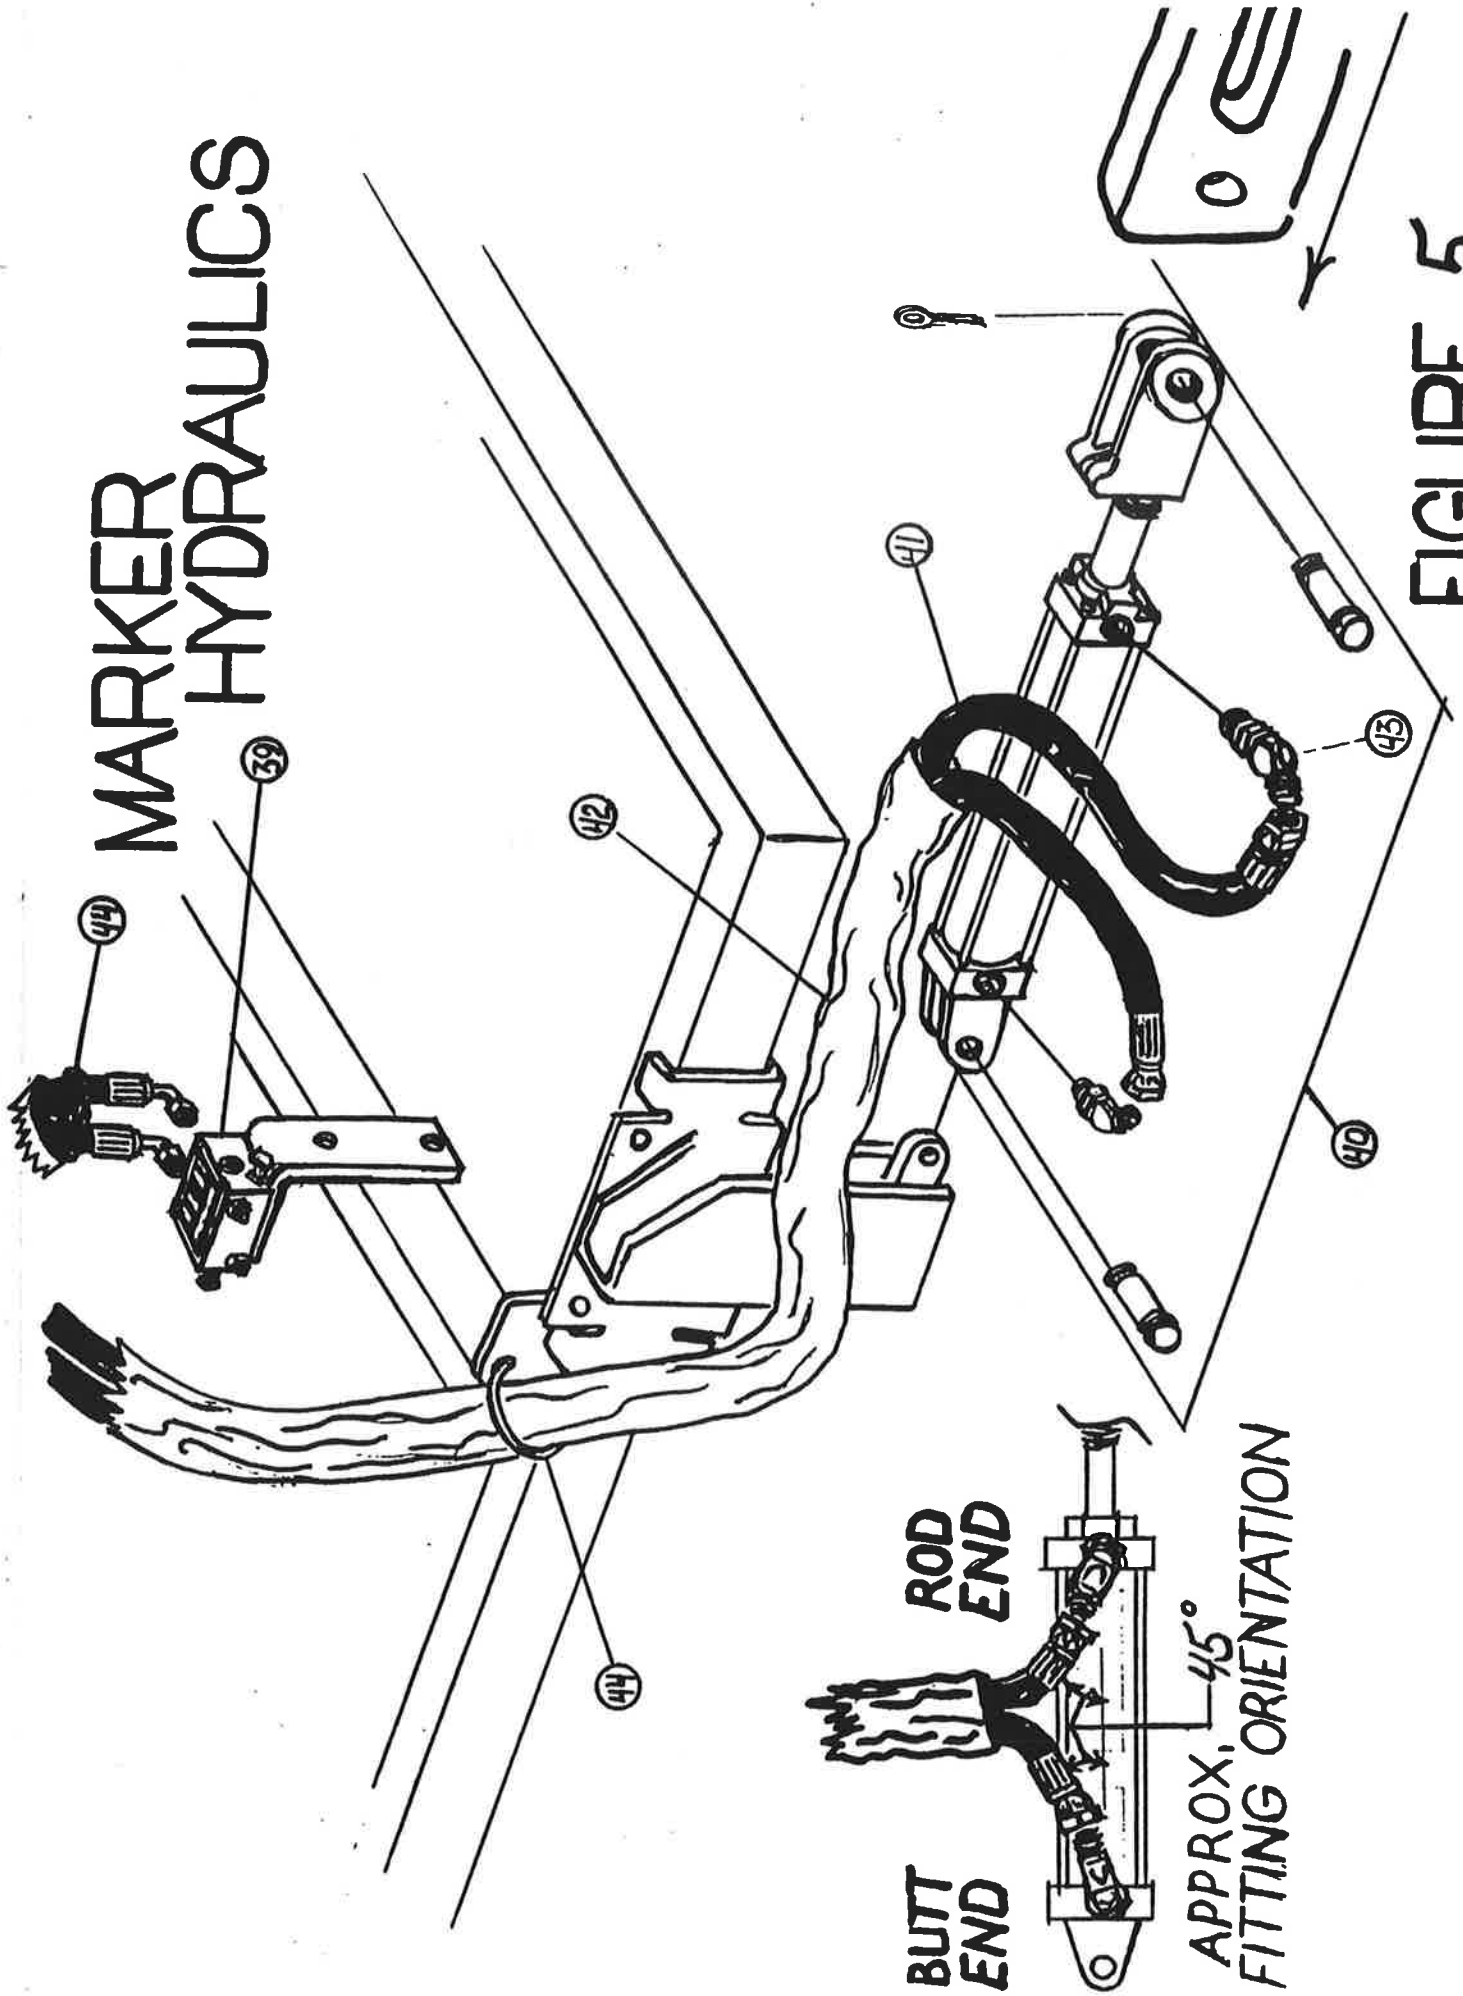

FIGURE 5
Step 12 Attach Hydraulic Cylinder (40) between mount (24) and inner arm slide plate (4). Note slide plate must be on centerline of inner arm. Cylinder ports should face forward as shown in figure 5. Insert two cylinder pins and retain with four cotters provided. Bend cotters approx 180 degrees to avoid snagging residue and eliminate sharp point.
Install hydraulic fittings (43) in cylinder ports at 45 degrees as shown in figure 5.
Step 13 Install 90 degree bent tube end of Hose Assemblies to 2 fittings on rear of valve (39) identified on valve decal as "Left Hand Cylinder" with hoses oriented approximately vertical as shown in figure 5. Note instructions on valve top decal. Tighten nuts on 90 degree hose ends on valve. Install one sleeve (42) over 2 Left Hand cylinder hoses.
Secure two LH hoses together with one tie strap (44) approx 12 inches above valve (39). Secure LH hose and sleeve bundle loosely with tie strap (44) through existing unused hole in Drill LH frame member flange as shown in fig 5. Route hose bundle around front side of mount (24) insuring hose bundle is not able to be pinched between inner arm and mount when arm is later raised.